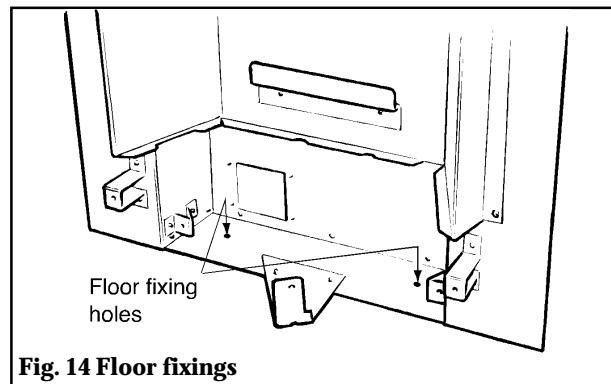

Fig. 14 Floor fixings
**7.2.9** Drill a hole into the fireplace floor through each of the two holes in the base of the convection box, using a no.12 masonry drill (see figure 14).